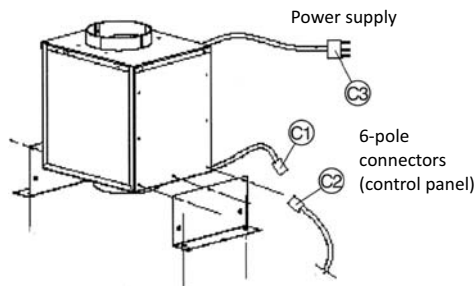

Figure 2
- 2.) Place the equipment exactly where it is going to be installed. Mark the location of the holes on the wall. Drill the holes and insert the screw anchors provided. The diameter of the holes must be suitable for the diameter of the screw anchors (see Figure 2).